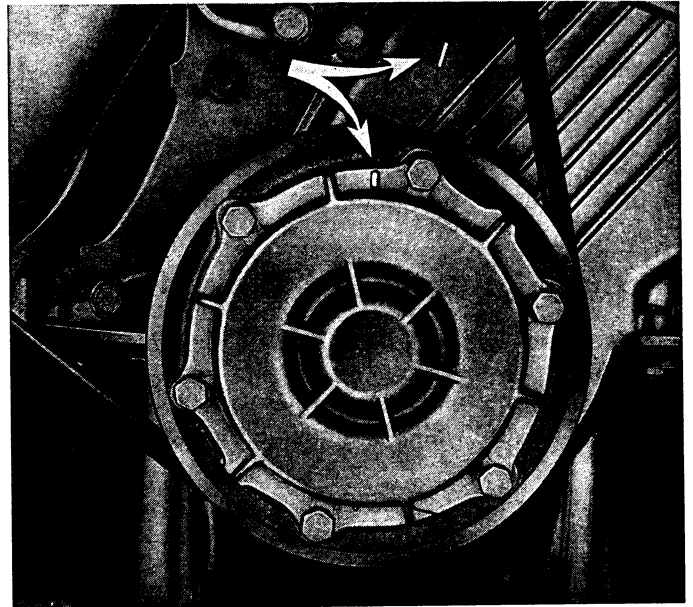

Fig. 211. - Timing ignition.
- 1500: $1/2$ " (13 mm) approx. ahead of the mark embossed on the timing gear cover (fig. 211);